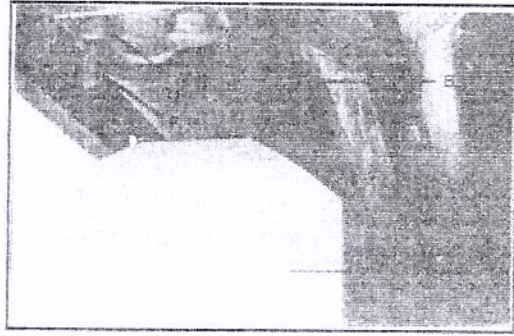

Fig. 21
4. Move the gage block(A)Fig.21,under one end of the outfeed roll(B)as shown. The bottom of the outfeed roll(B)should just touch the top of the gage block(A). If an adjustment to the outfeed roll is necessary, loosen locknut(E)and turn screw (F) until the feed roll just touches the gage block. Then tighten locknut(E) Fig.21.